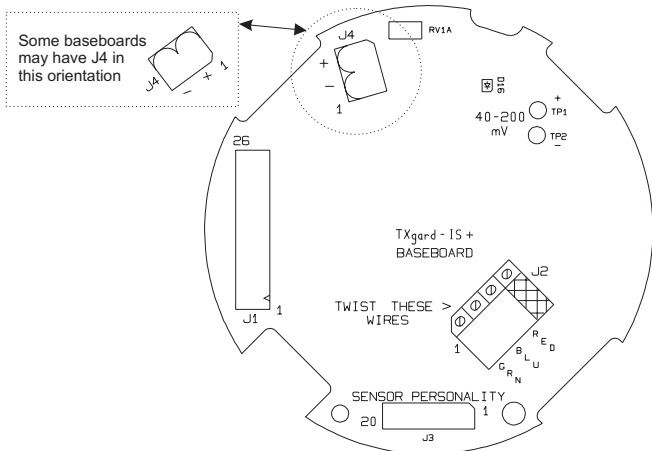

Figure 3: Baseboard
Figure 3 on page 7, shows the baseboard in detail. The terminals marked J4 should be connected to the control equipment using the appropriate + and – terminals. For further details of wiring the TXgard-IS+ to Crowcon equipment see Appendix A.
- 1 Connect a digital voltmeter (DVM) across test points TP1 and TP2 on the baseboard (Figure 1 on page 2 or Figure 3 on page 7). The loop current flows through a sense resistor between these test points, so a 4 mA loop current will show as 40 mV on the DVM, and 20 mA will show as 200 mV.